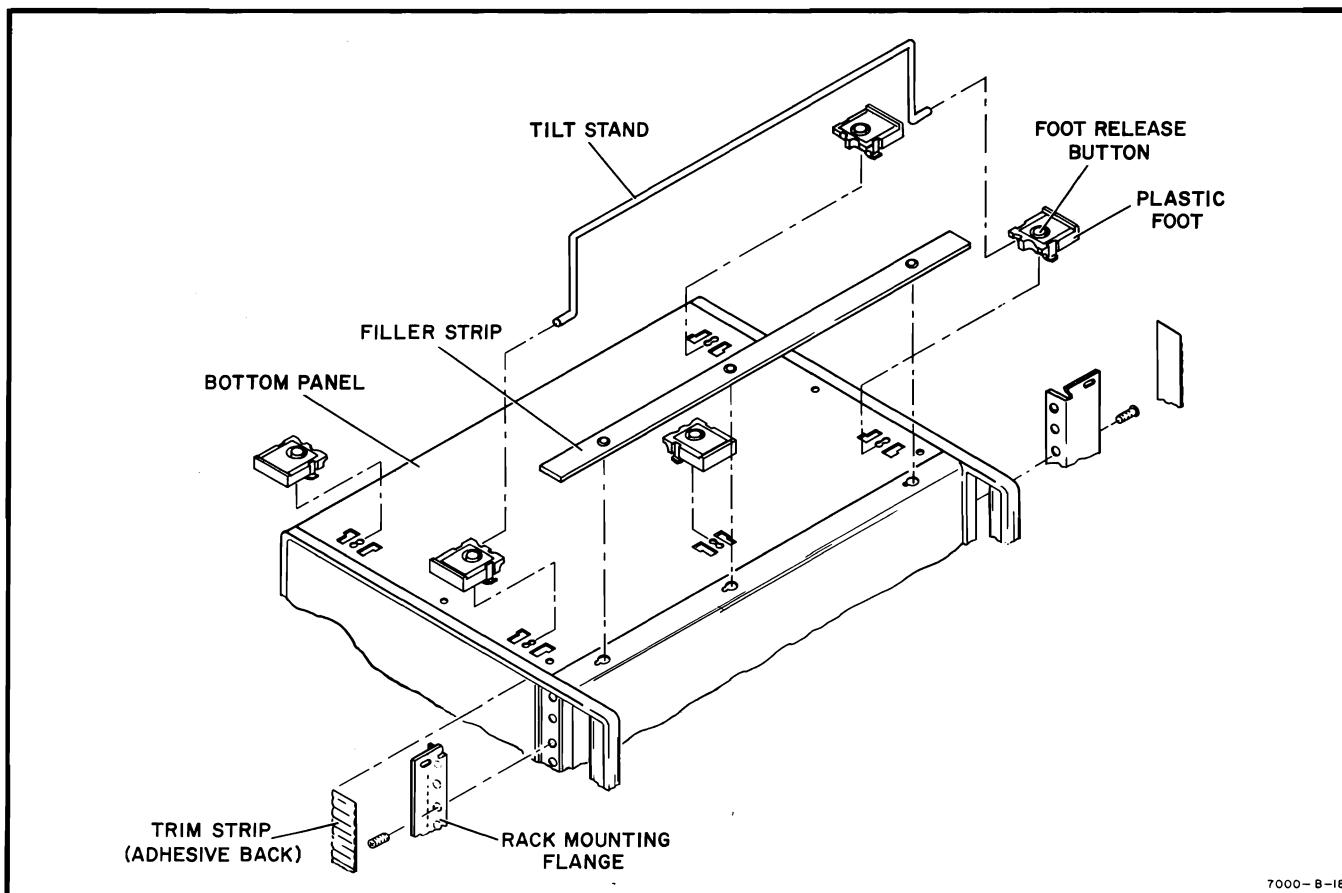

Figure 2-1. Rack Mounting Procedure
**2-11. RACK MOUNTING.** A kit for converting the modular cabinet to a rack mount is supplied with each Model 141S. Instructions for making the conversion are given below. Refer to Figure 2-1 as an aid to identifying parts.